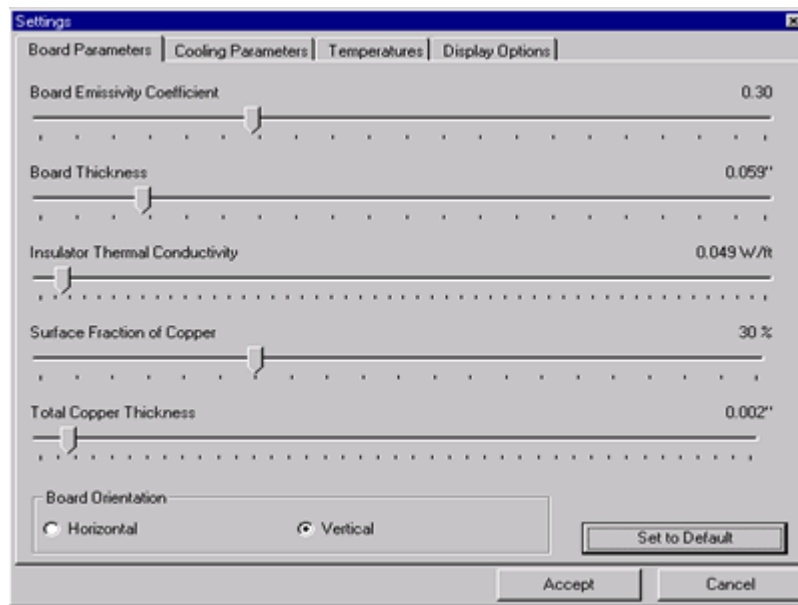

Fig. 9-2
5. Right click and select the tool  **Board Parameters** (Or select from the Analysis menu). The board parameters are set to the default values by clicking the **SET TO DEFAULT** button as shown in Fig. 9-2.